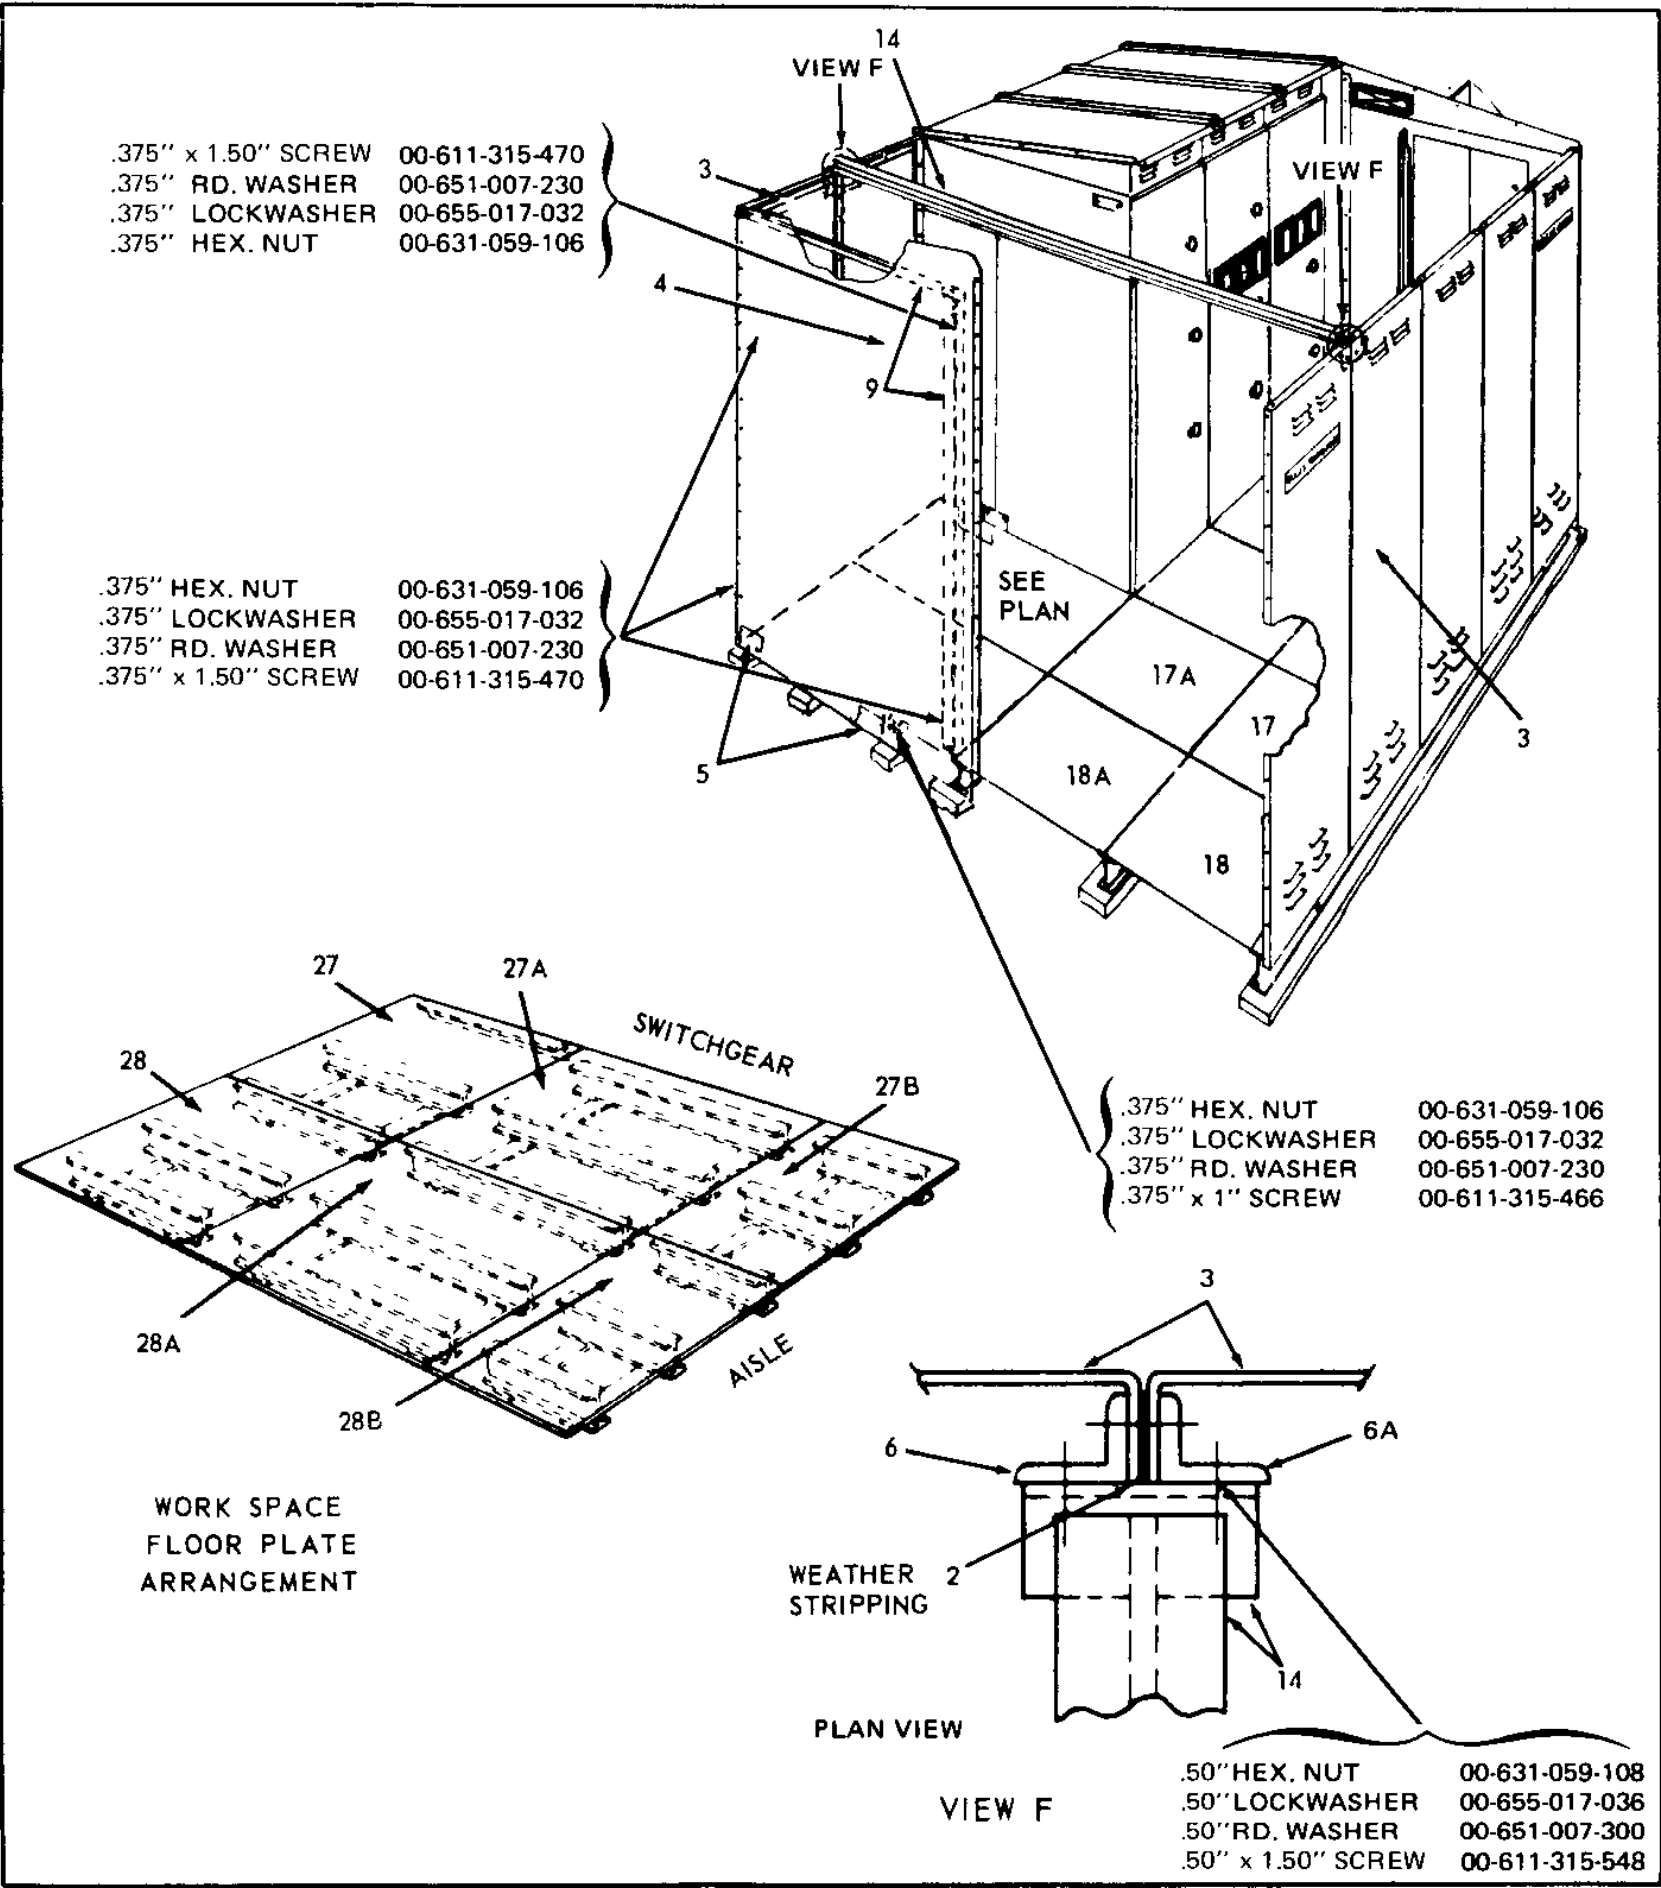

Figure 42. Floor Plate Installation (15 KV) – Single Aisle with Work Space
6. Assemble aisle walls (3). See general arrangement drawing for location of special panels for fans, etc. Apply .50-inch sealant tape to the joints. Place the tape so that one edge is on the vertical centerline of the holes and the other edge is toward the seam which will be exposed to the weather.
7. Bolt plates (3) together, to switchgear unit and to beam (1). Apply .50-inch sealant tape to the joints.
8. Attach angles (10) to ends of beams.
9. See Figure 42. Mount beams (14) between walls at each joint (view "F").
10. Mount frame (9) at end of work space.
11. Install end cover (4) and attach it to rear plate (3), frame (9) and to angles (10).
12. Install floor plates (17, 17A, 18 and 18A) in the same arrangement as that for single aisle layouts (see Figure 26). Install the floor plates in the work area as shown in Figure 42. Install covers (5).